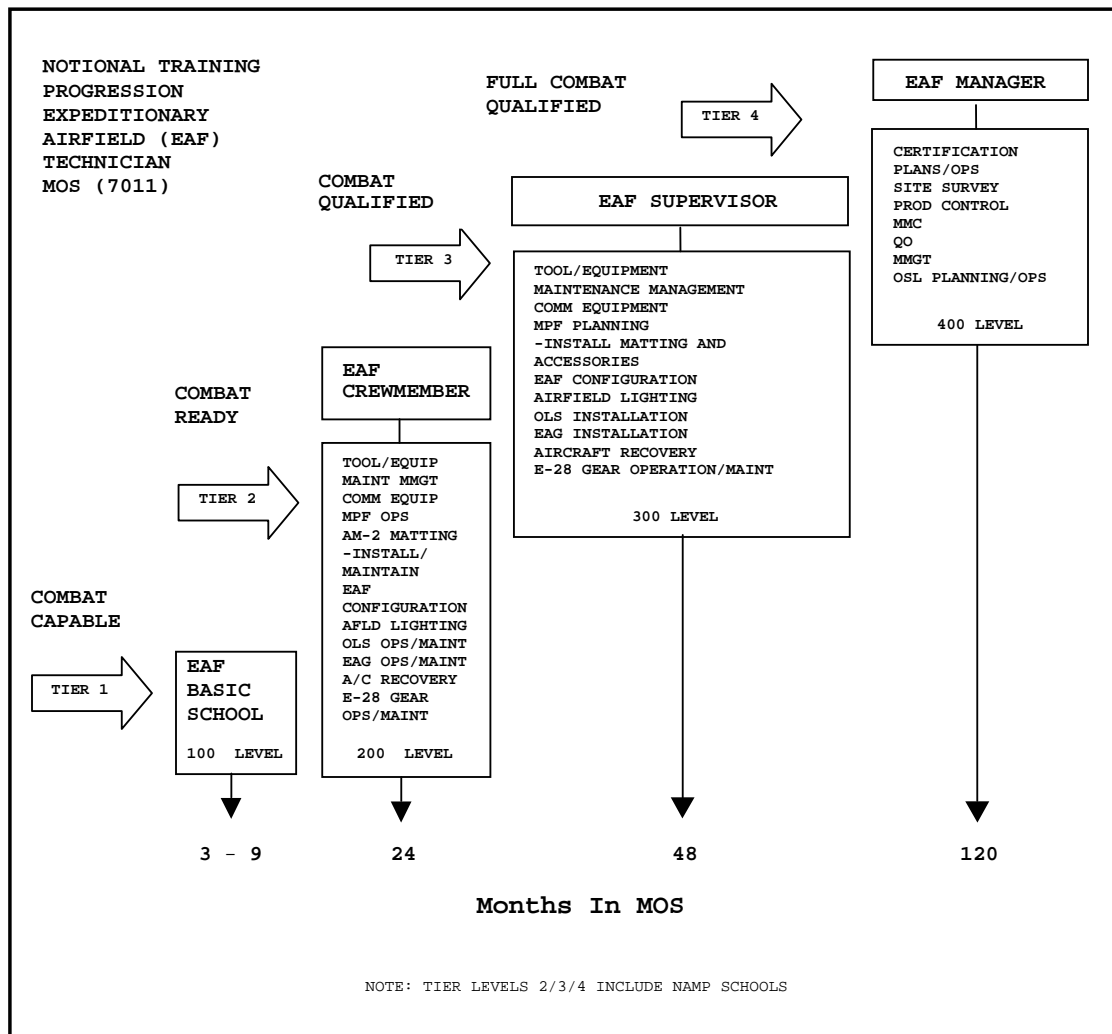

Figure 2-1.--EAF Technician Training Progression Model.
1. The Training Progression Model for the EAF Technician, MOS 7011 is depicted in figure 2-1.